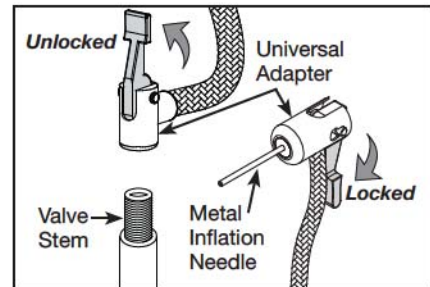

Figure 4 - Lock Universal Adapter Securely
3. When the universal adapter is firmly in place, press the locking lever down ( see Figure 4).
3. When the universal adapter is firmly in place, press the locking lever down (see Figure 4).